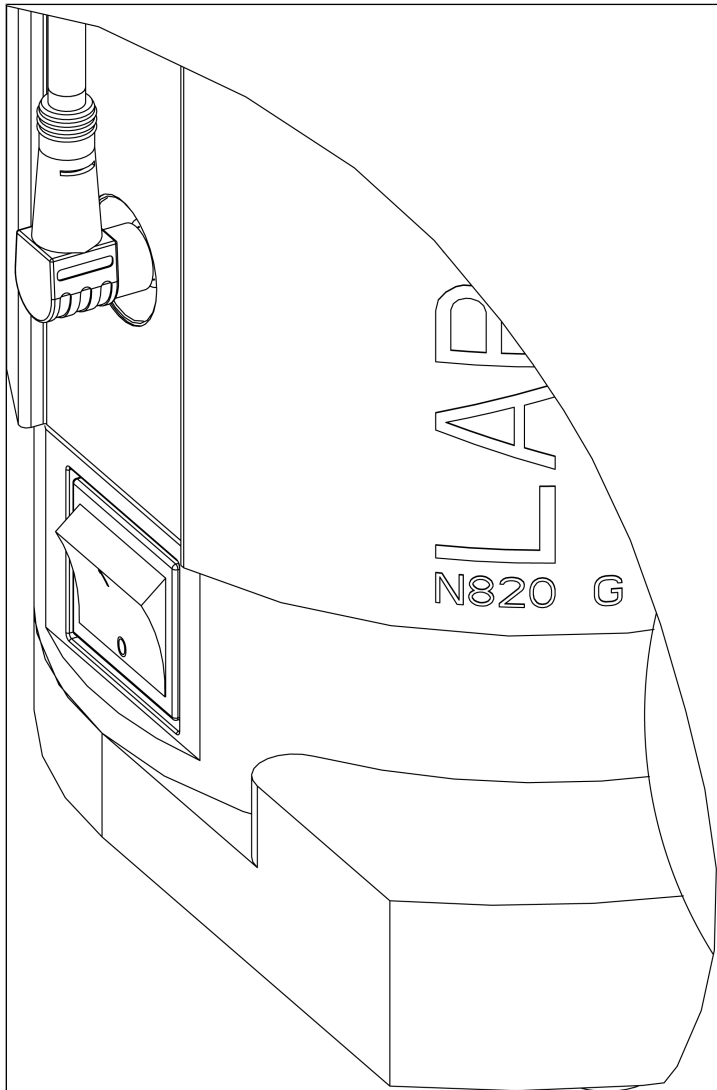

Fig.11: Switch vacuum system on and off with power switch
- Switch on the vacuum system with the power switch (see Fig. 11).